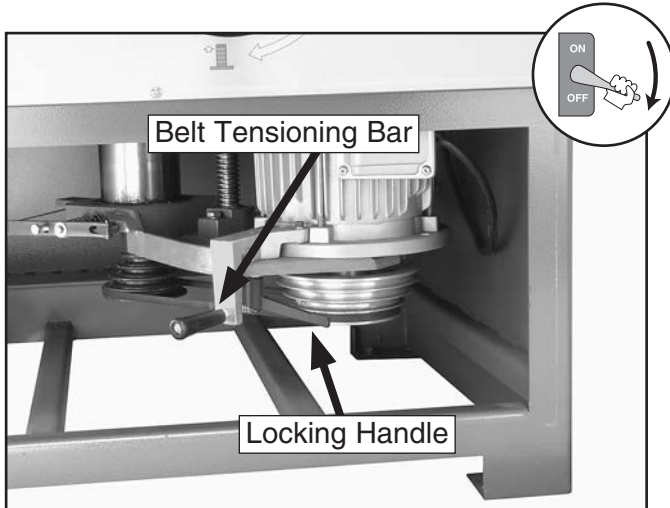

Figure 25. Belt tensioning bar and locking handle for changing spindle speeds.
2. Open the shaper front door and identify the belt tensioning bar and the locking handle (see **Figure 25**).